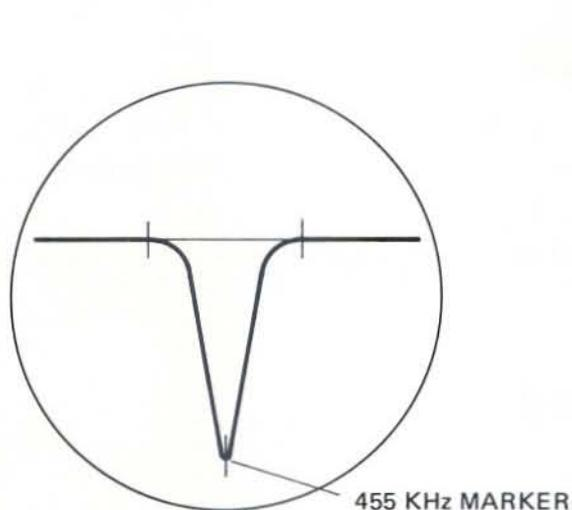

Figure 4 AM IF
3. Adjust T201 (RED) for maximum waveform. (Photo 8, Figure 4)
4. Adjust T202 (BLU) for maximum waveform. (Photo 8, Figure 4)
5. Adjust T204 for maximum waveform. (Photo 8, Figure 4)